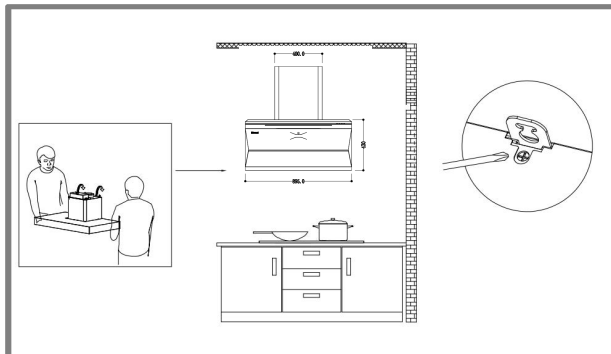

Fig. 7
Hood Step 2 (Fig. 7)
- Mount the appliance onto the wall and do ensure that it is properly engaged with the mounting screws 3 & 4 (Fig. 7)
- If there is a need to realign the appliance, adjust the screws on the top of the motor housing (Fig. 7)